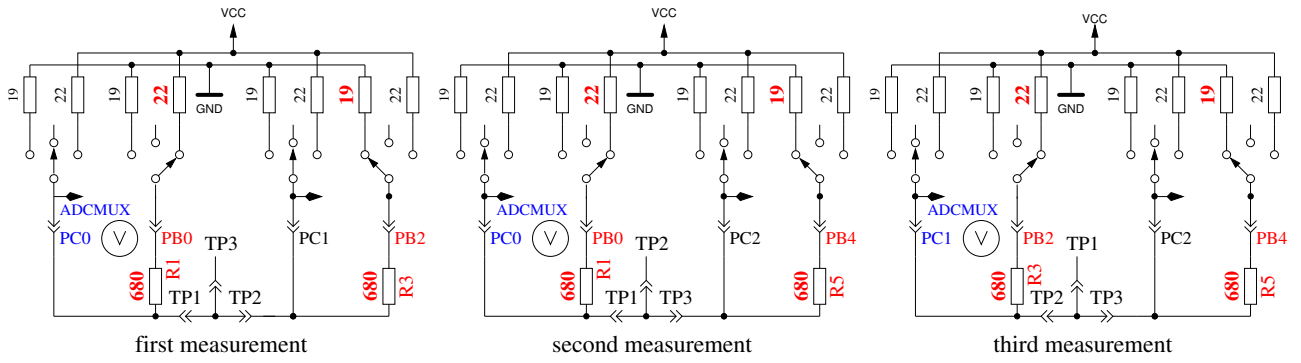

Figure 5.27: Comparison of 680Ω resistors
2. **Comparing of the 680Ω resistors.** In row 1 the cryptic text “+RL- 12 13 23” is shown. Meaning of this is as follows: The RL is the short form of Resistor Low meaning the 680Ω resistors. The 12 stand for: resistor at pin 1 is connected to VCC (+) and resistor at pin 2 is connected to GND (-). The result of this measurement is displayed in row 2 at the first place. In row 1 follows now a “13” which means, that the first connection of measurement 1 is still connected with 680Ω to VCC but that the resistor of pin 3 is connected to GND. The result is displayed in the middle place of row 2. The last measurement of this test “23.” means that now the resistor at pin 2 is connected to VCC (+) and the resistor of pin 3 is connected to GND. The result of measurement is displayed at the last place of LCR row 2. Please remember, that the resolution of the ADC is about 4.88mV! The measurement situation is also shown in figure 5.27. All these combinations with respect to the internal resistance of the pins should result to: